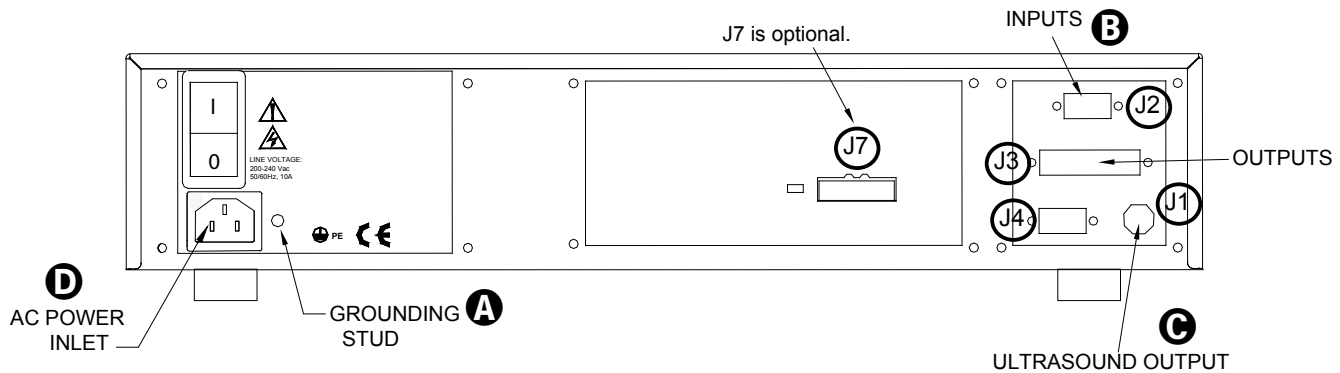

Figure 3-6 Generator - Rear View (low profile model)
See Figure 3-6 on Page 20.
- Step 1. Ground the generator chassis using the supplied 14-Gauge wire, and attach it to the grounding stud: **A** in Figure 3-6.
- Step 2. Attach the hand probe's HD-15 system input connector to J2 on the I/O panel: **B** in Figure 3-6.
- Step 3. Attach high-voltage coaxial cable to J1, the ultrasound output connector: **C** in Figure 3-6.
- Step 4. Connect the AC power cord to the IEC power inlet connector on the ultrasonic generator (**D** in Figure 3-6), and plug the other end into an approved AC outlet.
- Step 3. Input Cable - Attach the automation control cable from the user-supplied automation equipment to the system input HD-15 connector, J2 on the I/O panel: **B** in Figure 3-6.
- Step 5. Attach the high voltage coaxial cable from the probe to the ultrasound output connector J1: **C** in Figure 3-6.
- Step 6. Connect the AC power cord to the generator IEC power inlet connector, and plug the other end into an approved AC outlet: **D** in Figure 3-6.